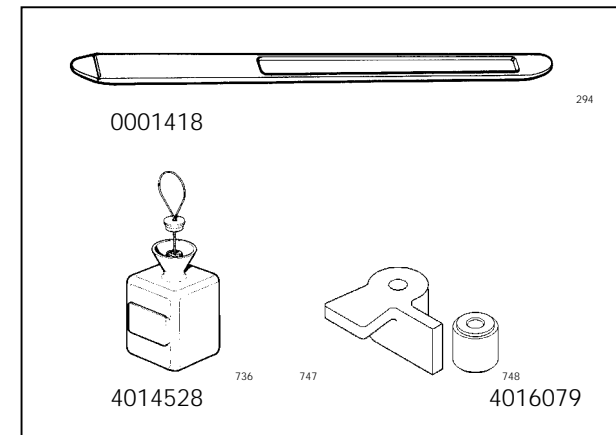

Fig.3
1.4 STANDARD ACCESSORIES (Fig. 3)
1.4 ACCESSOIRES D'ORIGINE (Fig. 3)